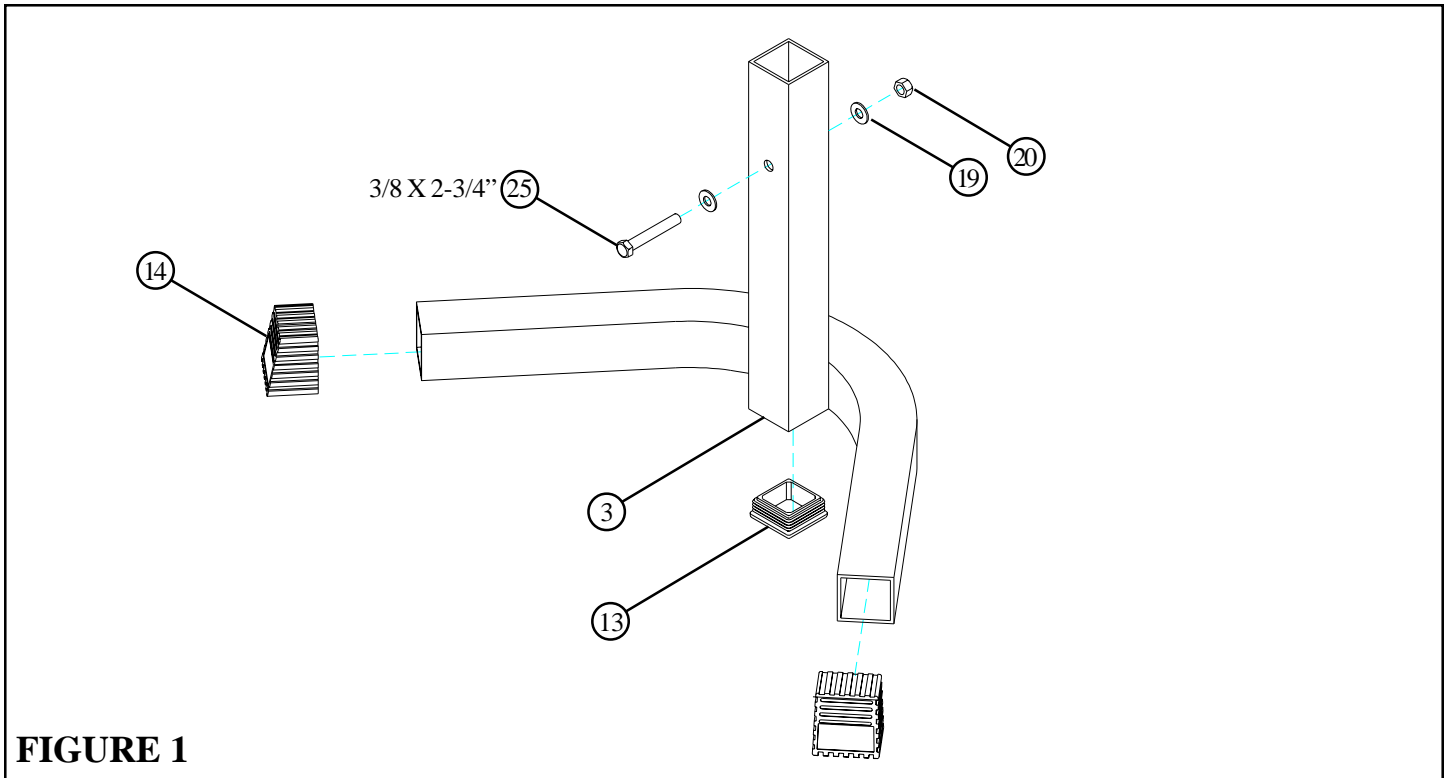

FIGURE 1
- Assemble two 2" SQ. COVER CAPS (14) onto the ends of the STAND (3) as shown in FIGURE 1.
- **SECURELY** assemble the one 3/8 X 2-3/4" BOLT (25), two 3/8" WASHERS (19), and one 3/8" LOCK NUT (20) to the STAND (3) as shown in FIGURE 1.
- Assemble one 2" SQ. END CAP (13) into the end of the STAND (3) as shown in FIGURE 1.